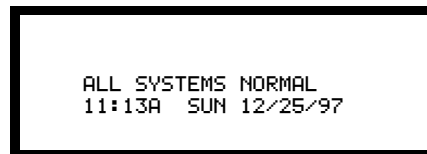

Figure 96 Sample LCD Display in Normal Operation
4. When finished with the Walk Test, press the BACKSPACE key to return the control panel to normal operation as shown in the sample screen in Figure 96.